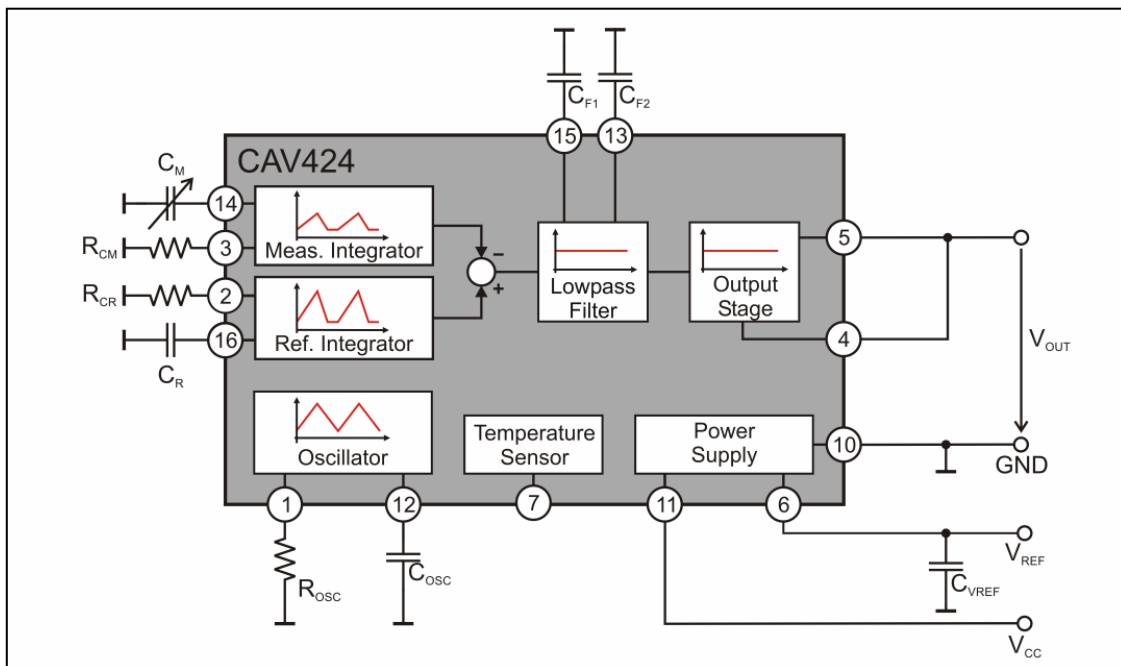
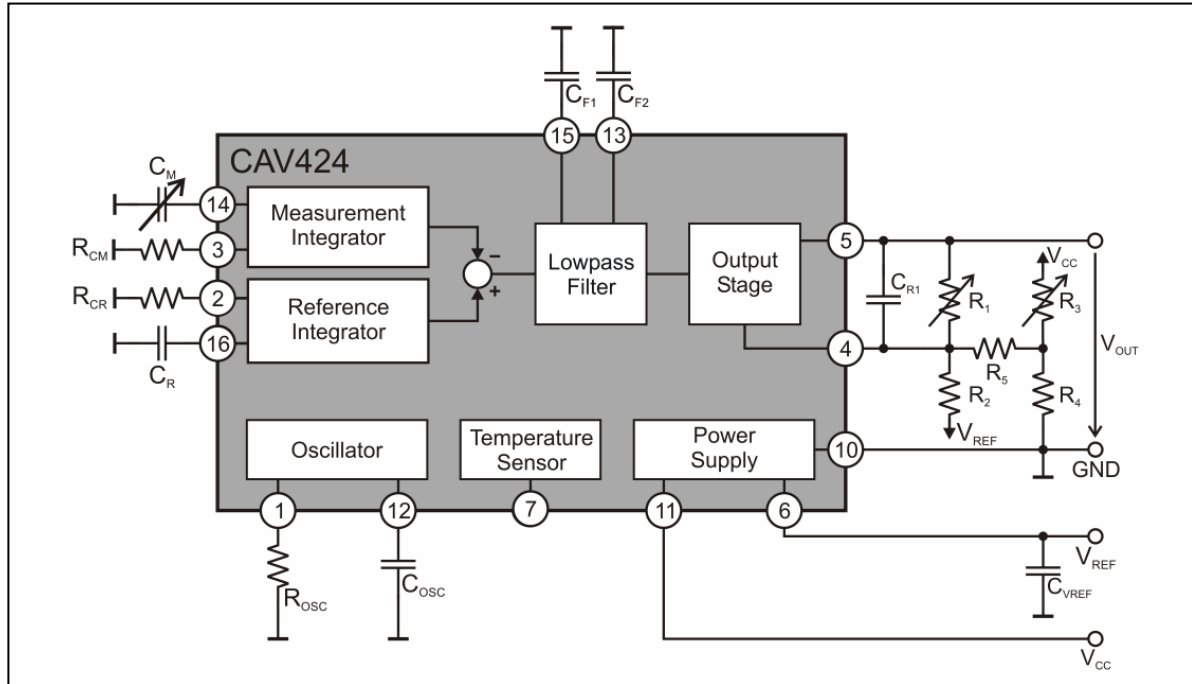

Figure 2: CAV424 with signal path and a basic circuit
Figure 6: CAV444 used as C/V-converter with adjustable gain and offset
CAV424's functional principle is described using *Figure 2*, where the functional blocks of the IC, the signal patterns inside the IC and a basic external circuit with necessary passive components are illustrated.
CAV424 uses a differential measurement principle to evaluate the measurement capacitance C_M . Using two symmetric integrator blocks C_M is measured against a reference capacitance C_R . Both capacitances are charged and discharged synchronously with constant current by their separate integrator blocks. The charge currents for C_M and C_R can be adjusted using R_{CM} and R_{CR} respectively. The time constant for the charge and discharge process is given by the oscillator block, whose frequency can be adjusted using C_{OSC} and R_{OSC} . The measurement and the reference integrator both generate a sawtooth output voltage with an amplitude proportional to $1/C_M$ and $1/C_R$ respectively. At the low pass stage the difference of these sawtooth output voltages is converted into a DC voltage. The output voltage V_{OUT} at pin 5 is ratiometric to the supply voltage and is a linear function of $1/C_M$. It can be referenced to GND or to pin 6 to obtain the differential output voltage $V_{DIFF} = V_{OUT} - V_{REF}$. Using the circuit in *Figure 6* the output signal's offset and gain can be adjusted too.
Using the circuit in *Figure 2* this DC voltage is impedance transformed by the output stage. For this case the output voltage V_{OUT} at pin 5 is given by equation (8).
The DC voltage can be amplified and offset adjusted using the circuit in *Figure 6*. For that case the output voltage V_{OUT} at pin 5 is given by equation (11).
For the capacitive sensor system shown in *Figure 2* the output voltage V_{OUT} at pin 5, which is referenced to GND, is given by:
For the adjustment of the output signal's offset and gain five resistors $R_1 \dots R_5$ have to be added to the network in Figure 2. The complete measurement circuit with CAV424 is illustrated in Figure 6.
For the capacitive measurement system in Figure 6 the output voltage V_{OUT} at pin 5 (referenced to GND) is given by:
A basic dimensioning of the passive external components in *Figure 6* with a measurement capacitance not larger than 1 nF is given in the table below. For the application specific capacitance ranges or if C_R is given by the measurement setup an optimal dimensioning can be calculated using the Excel-sheet Kali_CAV424.
During the design of capacitive sensor systems it always has to be taken into account that there are parasitic capacitances beside the connected measurement capacitance, which influence the output signal and the calibration process. To simplify the consideration of these effects during the calibration of sensor systems, Analog Microelectronics developed a calibration strategy, implemented in the Excel-sheet Kali_CAV424. This Excel-sheet, based on the circuit in *Figure 6*, is available free of charge at www.analogmicro.de.